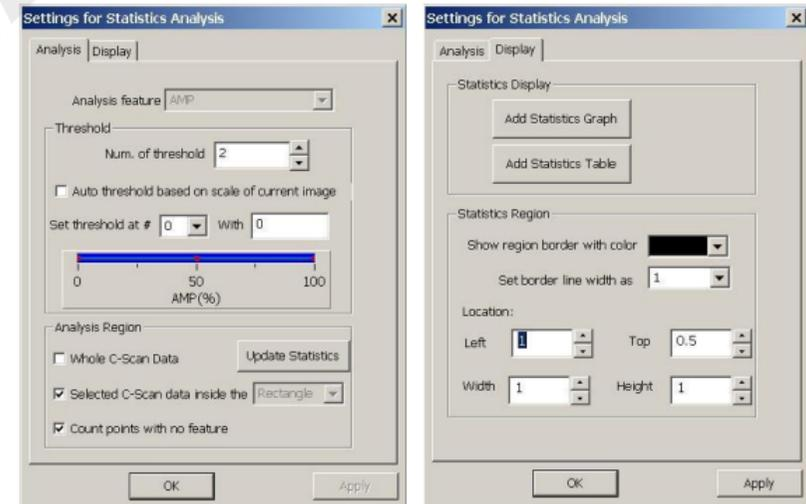

Figure 6.19: Statistics Analysis Setup Dialogs.
Step 2. Next we must configure the statistics function. The statistics setup dialog includes two pages as shown in Figure 6.19. This includes setup of the feature, threshold and display options. Each of these is described further below.
Analysis Region: Select ‘Whole C-Scan Data’ to perform statistics analysis for the whole image. Select ‘Selected C-Scan Data’ to perform statistics analysis for the region indicated by a rectangle or an oval in the C-Scan graph as shown in Figure 6.19.